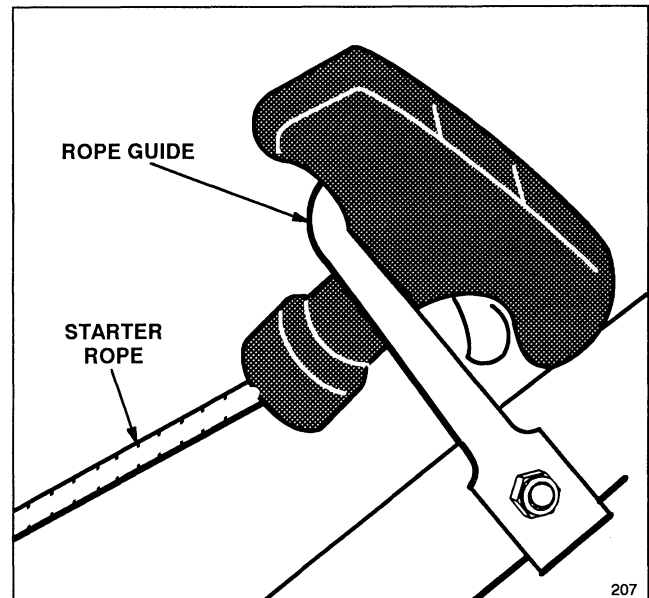

Figure 2
1. Pull starter rope through loop opening on handle (Fig. 2). Rope will be easier to pull up through loop if the control bar is squeezed against the handle.